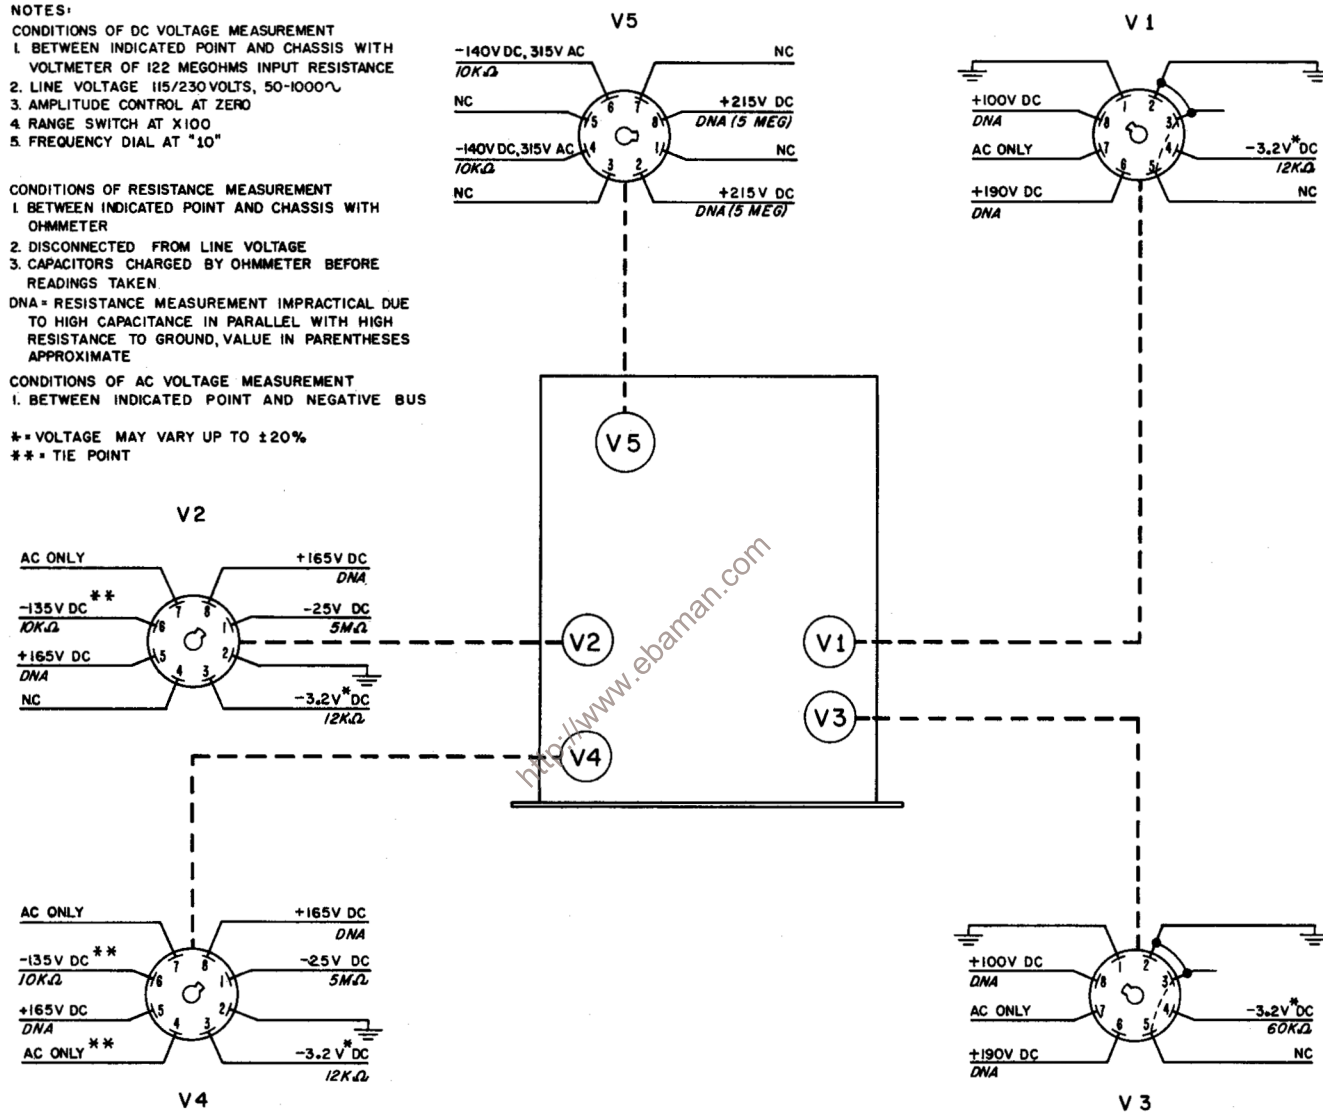

Figure 4-5 Model 200CD Tube Socket Voltage-Resistance Diagram
| <p>6. Distortion in output.</p> <p>a. Bad tube in oscillator circuit.</p> <p>b. Incorrect potentials on tube pins.</p> <p>c. Dust on plates of tuning capacitor C5.</p> <p>d. Defective lamp (R13 or R14).</p> | <p>a. See paragraphs 4-3 and 4-8.</p> <p>b. (1) Check as described in 2a, above.</p> <p>(2) Check d-c voltage on pins of all tube sockets; except as noted in Figure 4-5, voltages should be within $\pm 10\%$ of values shown in schematic or Figure 4-5.</p> <p>c. Inspect visually.</p> <p>d. See paragraph 4-4.</p> | <p>(1) Replace defective tube. See paragraph 4-3.</p> <p>(2) If potential on any pin not correct value, check resistors in power-supply network associated with incorrect potential.</p> <p>c. With air hose, gently blow out dust.</p> |